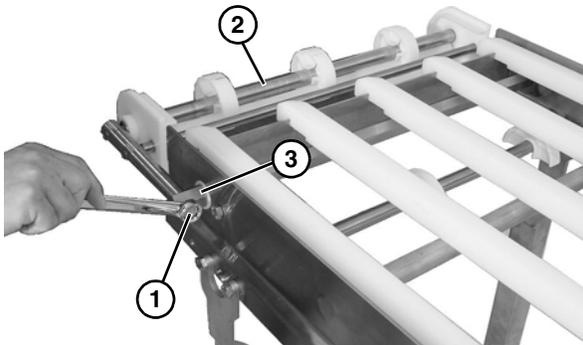

Figure 56
1. Remove bolt (**Figure 56, item 1**) from each side, and remove idler tail assembly (**Figure 56, item 2**) from take up blocks (**Figure 56, item 3**).